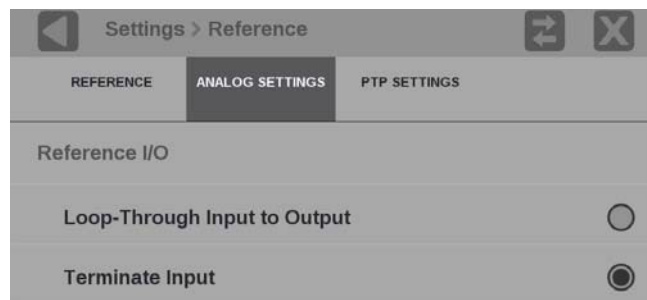

Figure 62: Analog reference settings configuration
2. Select **Reference** to open the Reference submenu and select the **Analog Ref Setting** submenu. (See Figure 62.)